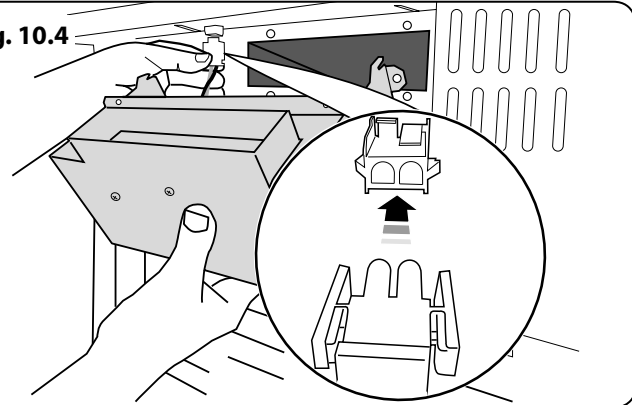

Fig. 10.5
3. The cooling fan has two tabs which connects to the slots underneath the flue vent. Gently align the cooling fan box tabs to the slots underneath the flue vent **Fig. 10.5**.